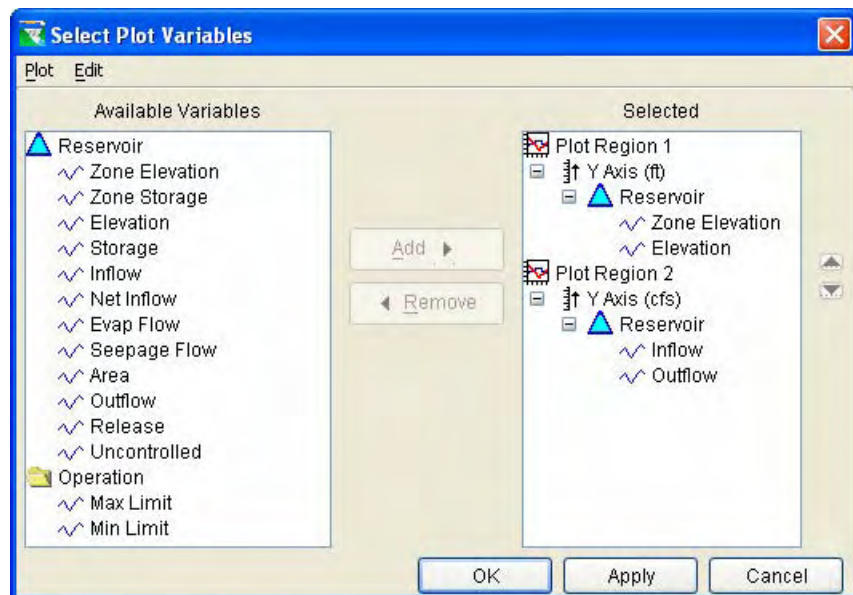

Figure 14.27 Select Plot Variables
2. Select **Select Variables** from the **Plot** Menu. The **Select Plot Variables** dialog box will appear (Figure 14.27).